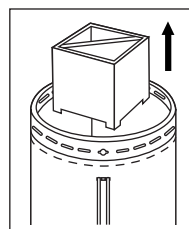

Fig.3
**A) Remove all packing materials from heater: (Fig.3)**